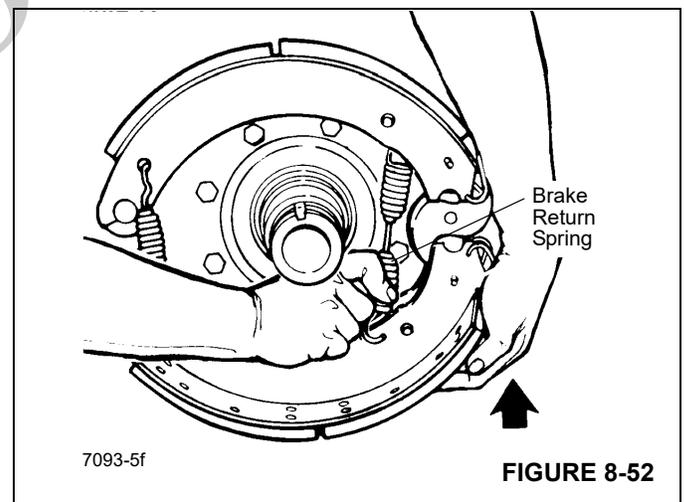

FIGURE 8-52
3. Lift the bottom shoe to release the tension on the brake return spring and remove the spring (Figure 8-52).